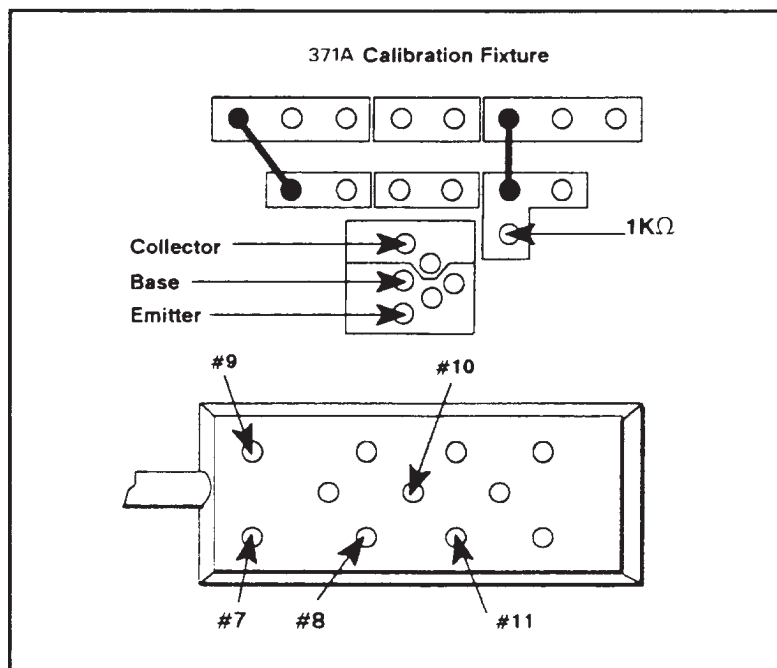

Figure 4-31. Setup B for Checking Test Fixture continuity.
5. Connect the patch cords on the Test Fixture as shown in Figure 4-31.